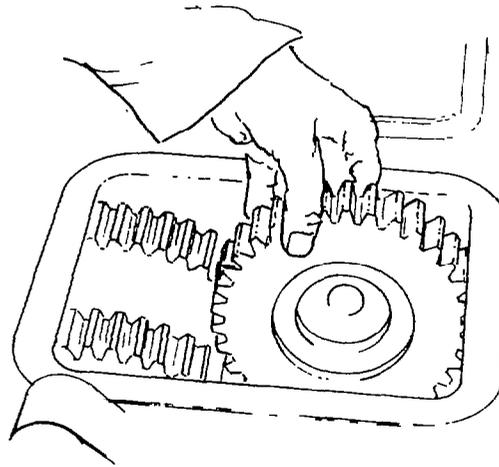

Fig. 179 — Removing Fourth Gear
- p. Remove the fourth gear and thrust washer through the transmission case top cover opening (see fig. 179).